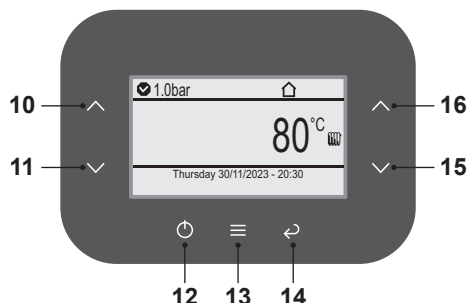

Fig. 7.4
- Press key 12 (Fig. 7.4) repeatedly and select the desired mode (see Fig. 7.5).
If the boiler is OFF, key 12 (Fig. 7.4) must be held down for at least 4 seconds to reactivate it.
- Press key 13 (Fig. 7.4) to go to the main menu (Fig. 7.6).
- Press key 10 or 11 (Fig. 7.4) to select the desired menu (Fig. 7.7).
- Press key 13 (Fig. 7.4) to access the selected menu (Fig. 7.8).
- Press key 10 or 11 (Fig. 7.4) to select the desired menu from those available (Fig. 7.9).
- Press key 13 (Fig. 7.4) again to highlight the value to be changed.
- Press key 13 (Fig. 7.4) to access the selected menu (Fig. 7.10).
- Press key 13 (Fig. 7.4) to confirm the change or key 14 to exit without changing the value (return to previous level).
- Turn off the boiler and press key 12 (Fig. 7.4) for 5 seconds until the LCD display indicates the symbol (I).